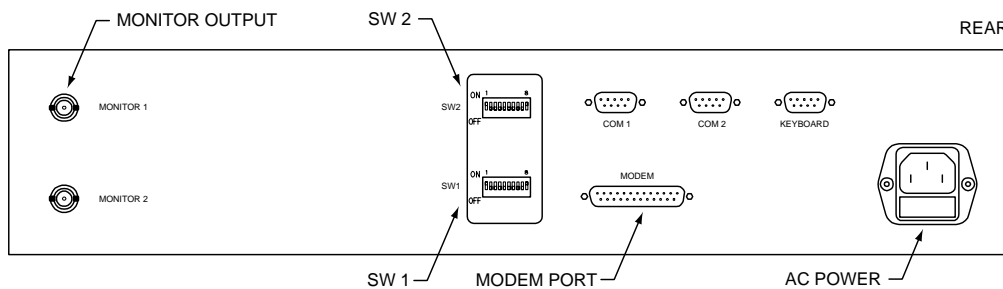

Figure 1. PV1016R Rear Panel
- Remove the DIP switch cover from the rear of the Receiver and set SW 1 and SW 2 according to model. Refer to Figure 1 when setting DIP switches and making cable connections to the PV1016R.